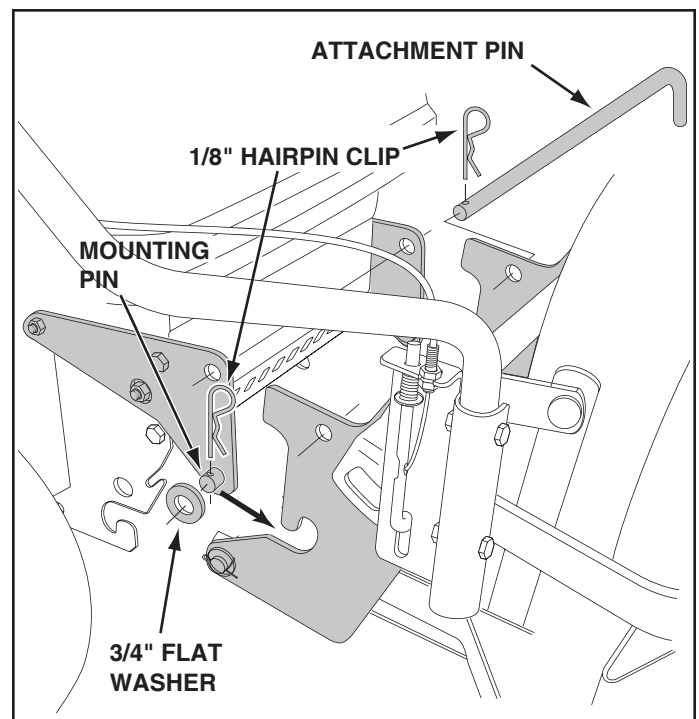

FIGURE 20 RIGHT SIDE VIEW
- Secure the snow thrower to the tractor using the attachment pin and 1/8" hairpin clip. Insert the attachment pin from the left side. See figure 20.